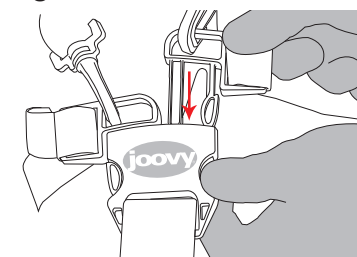

Figure 28
- Bring the seat belt around the child's waist and insert the male ends of the waist/shoulder buckle into the female buckle. Ensure that they snap into place. See Figure 28. Tighten the waist belt to be snug around the child's waist.